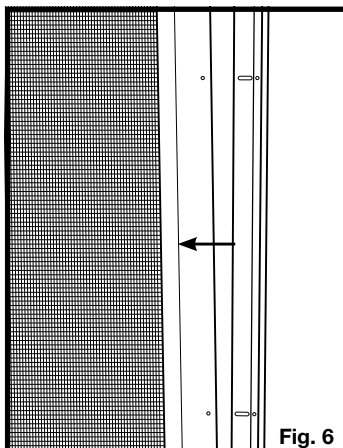
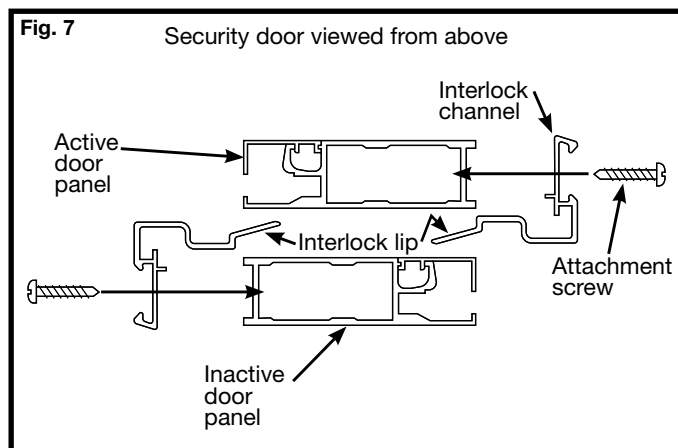

Fig. 6
Fig. 7
With the interlock lip facing toward the house (Fig. 6), attach the interlock channel (F) to the edge of the inactive door (E) through the pre-drilled holes in the channel opposite of the lock side (Fig. 7) using #6x5/8" pan head screws (Q).